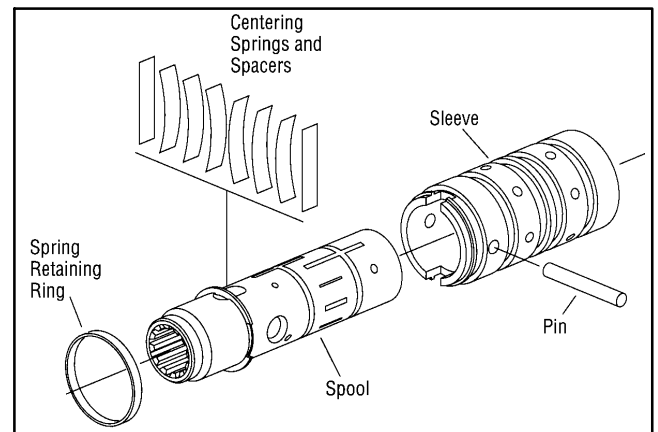

Figure 23
7. Remove the pin that holds the spool and sleeve together (Fig. 23).
3. Install the centering springs in the spool (Fig. 23). It is best to install the two flat pieces first. Next, install the curved pieces, three at a time.